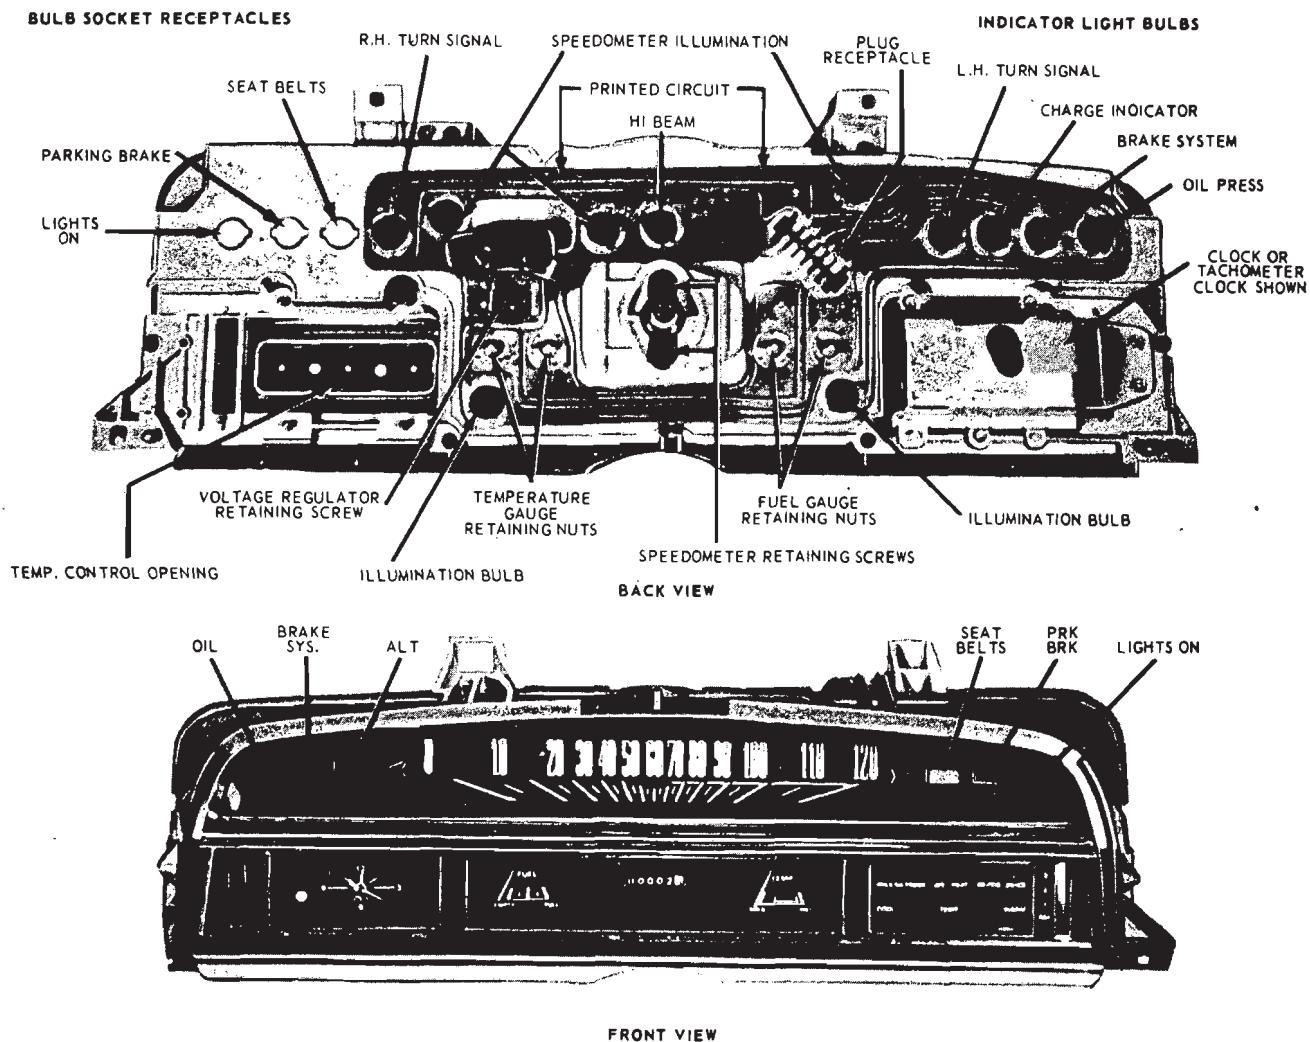
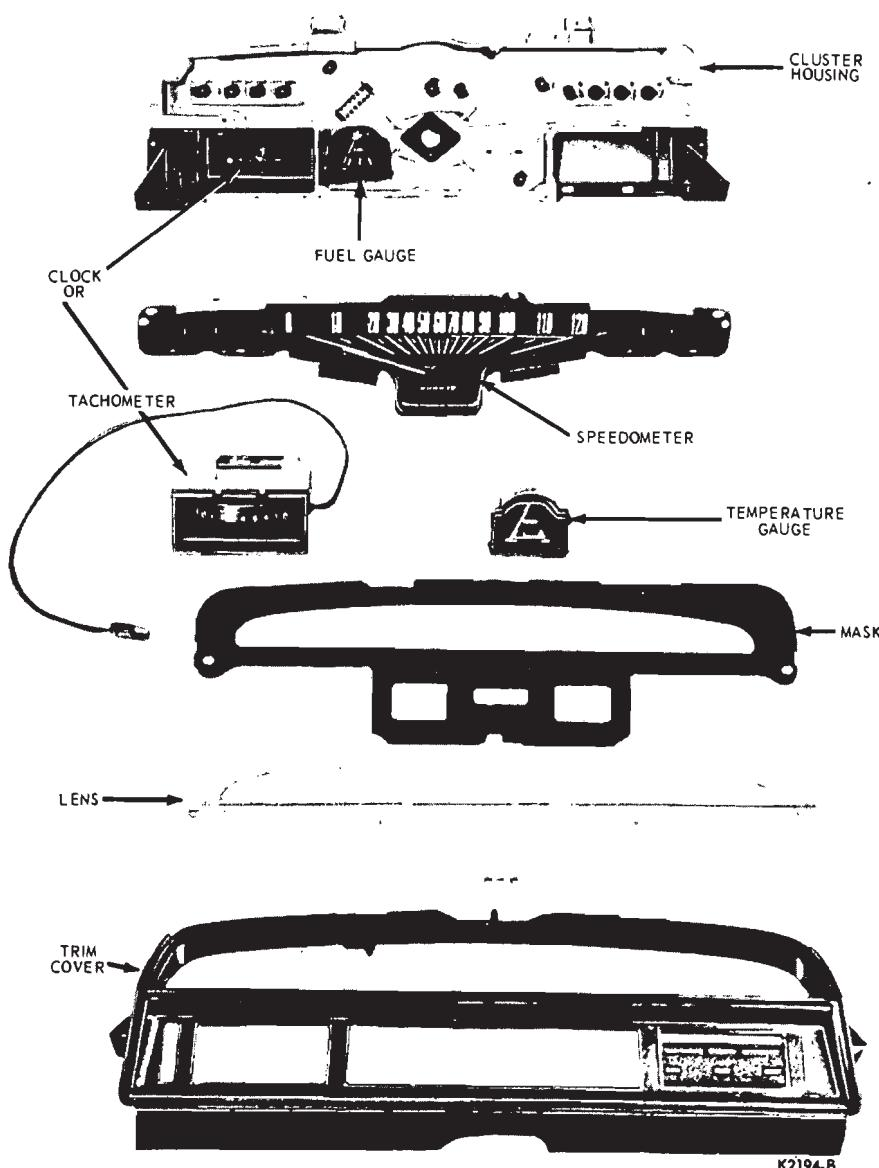

FIG. 15—Fairlane Instrument Cluster
FIG. 16—Fairlane Instrument Cluster Disassembled
Disengage the three wiring harness-connected indicator light bulb and socket assemblies from their receptacles (Fig. 15). Disconnect the cable and five vacuum hoses from the heater control. Disconnect the feed plug to the heater control switch and the connector to the heater control light bulb. Remove the cluster.
1. While holding the instrument cluster near its opening in the instrument panel, connect: the feed plug to the heater control switch and the heater control light bulb to its feed connector; the cable and the five vacuum hoses to the heater control; the three lights (from the wiring harness) into their socket receptacles (Fig. 15);
and the eleven light bulbs that hold the printed circuit to the back of the cluster (Fig. 15). Remove the printed circuit from the cluster.
To gain access to the instruments, first remove the instrument cluster from the instrument panel as outlined under **Instrument Cluster**, and then remove the trim cover, lens and mask from the front of the cluster by removing the six retaining screws and two heater control knobs (Fig. 16).
To remove either gauge, remove the retaining nuts at the back side of the cluster (Fig. 15) and withdraw the gauge from the front side.
Install the gauge from the front of the cluster with the studs entering the holes in the cluster housing (Fig. 16). Install the retaining nuts on the studs from the rear (Fig. 15).
To remove the speedometer, remove the retaining screws at the back side of the cluster (Fig. 15) and remove the three speedometer retaining screws from the front side (Fig. 16). Pull the speedometer out from the front.
Position the speedometer to the front side of the cluster housing and install three retaining screws from the front (Fig. 16). Install two retaining screws from the back side of the housing (Fig. 15).
Remove the three retaining screws and withdraw the assembly from the back side of the cluster (Fig. 15).